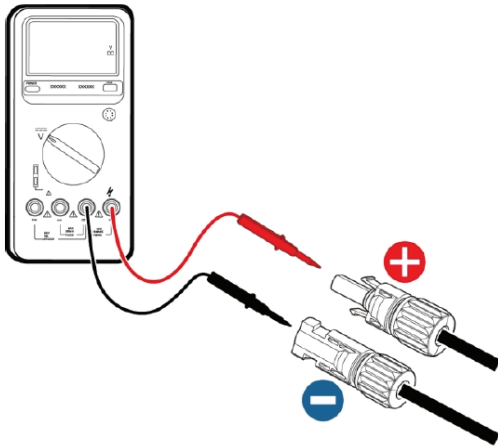

Figure 15 DC input voltage measuring
(3) After the DC connector is connected, use a multimeter to measure the voltage of the DC input string, verify the polarity of the DC input cable, and ensure that the voltage of each string is within the allowable range of the inverter, as shown in Figure 15
(4) Connect the DC connector with the inverter and ensure tightly-fastened;
(5) When removing the DC connector from the inverter, insert the head of the straight screwdriver into the raised hole in the middle of the connector, and force the movable end of the connector to exit.